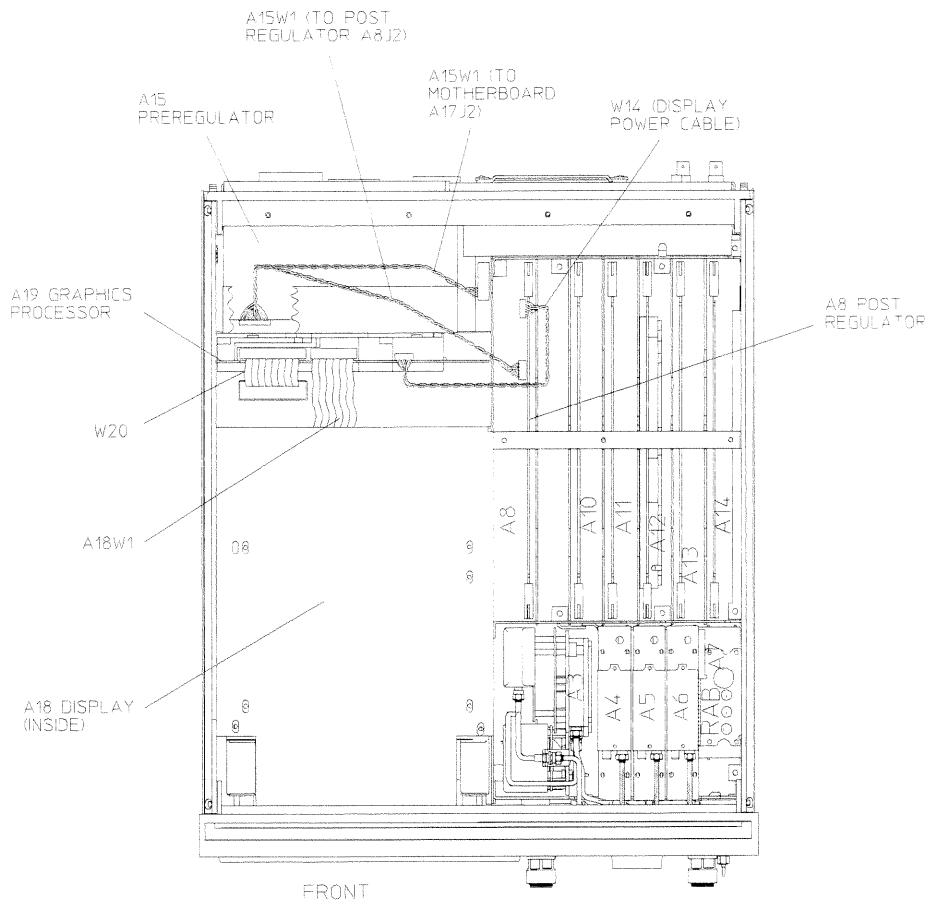

Figure 5-5. Power Supply Cable Locations
2. Disconnect the cable A15W1 from the A8 post regulator. (See Figure 5-5.)
2. Ensure that A15W1 is reconnected to A8. (Refer to Figure 5-5.)
3. Remove the display power cable W14. (See Figure 5-5.)
1. Remove the A15W1 cable at A8. (See Figure 5-5.)
3. Remove or disconnect all the assemblies listed below. (See Figure 5-5.)